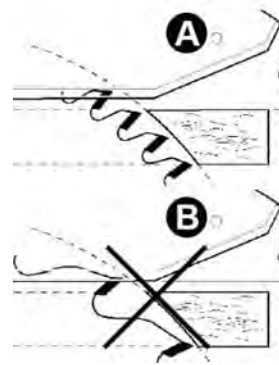

Fig. 18: Number of teeth of a suitable saw blade: A
- Select suitable saw blade: At least 2 - 3 teeth should always cut the workpiece at the same time (A, Fig. 18).